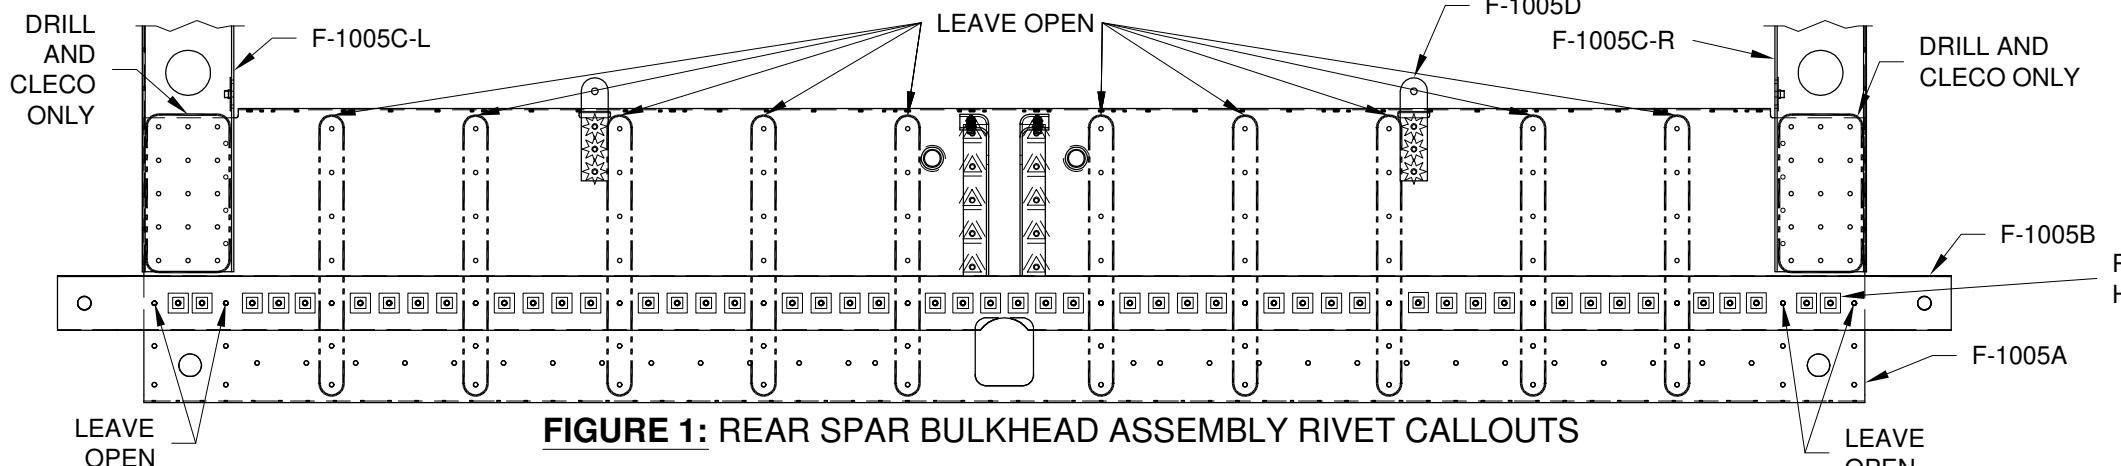

FIGURE 1: REAR SPAR BULKHEAD ASSEMBLY RIVET CALLOUTS
Step 2: Cleco the F-1005B Rear Spar Attach Bars, F-1005C-L and -R Bulkhead Side Channels, F-1005D Crotch Strap Lugs, F-1005E-L and -R Gussets and F-1063B-L and -R Idler Arm Brackets to the F-1005A Rear Spar Bulkhead, as shown in Figure 2. Using Figure 1 as a guide tape over or mark the holes to be left open. Final-Drill #30 the remaining holes common between the parts just clecoed together.